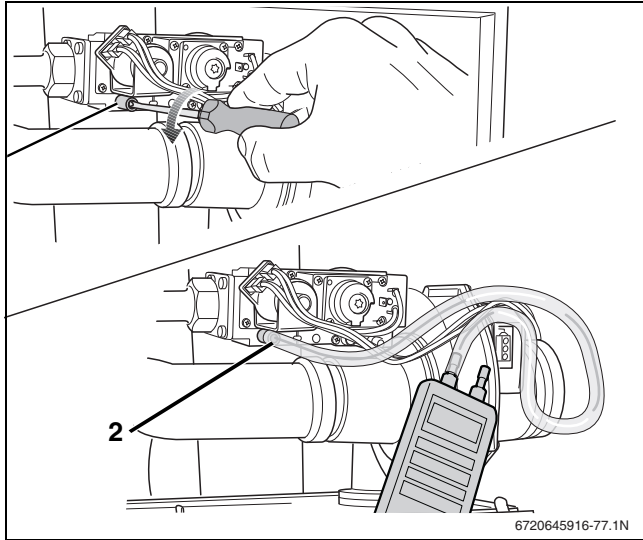

Fig. 79 Checking the gas fitting for internal tightness
- ▶ Open the screw plug on the testing nipple for the gas connection by 2 turns (→ fig. 79, [1]).
- ▶ Connect the pressure gauge tube to the testing nipple (→ fig. 79, [2]). The pressure drop allowed after 1 minute is max. 3.8" W.C. (10 mbar).